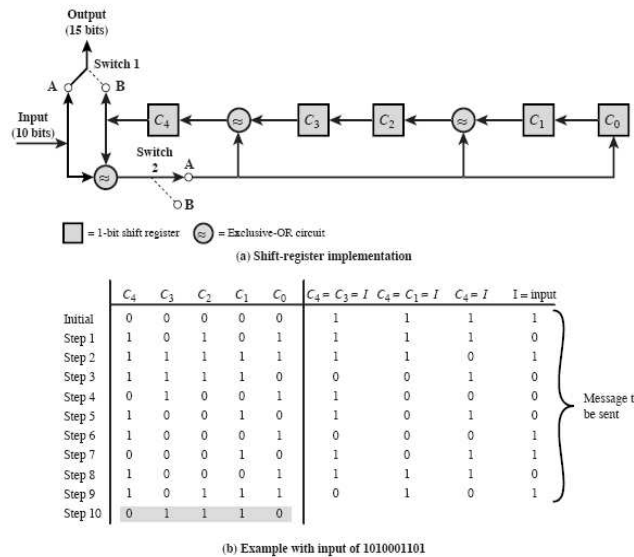

Fig. 2. Case study circuit for CRC checksum generation or checking: \oplus means XOR
The architecture of a CRC circuit is best explained by first considering an example which is illustrated in figure 2. In this example we use
Figure 2(a) shows the shift register implementation. The process begins with the shift register cleared (all zeros). The message, or dividend, is then entered, one bit at a time, starting with the most significant bit. Figure 2(b) shows the step by step operation as the input is applied one bit at a time. Each row of the table shows the value that is currently stored in the five shift register elements. In addition, the row shows the values that appear at the outputs of the three XOR circuits. Finally, the row shows the value of the next input bit, which is available for the operation of the next step. Note that the XOR operation affects C_4 , C_2 and C_0 on the next shift. This is identical to the binary long division shown in figure 3. The process continues for all the bits in the message. To produce the proper output, two switches are used. The input data is fed with both switches in A position. As a result, for the first 10 steps, the input bits are fed into the shift register and also used as output bits. After the last data bit is processed, the shift register contains the remainder (FCS) (shown shaded). As soon as the last data bit is provided to the shift register, both switches go to B position. This has two effects: (1) all the XOR gates become simple pass throughs; no bits are changed (2) as the shifting process continues, the 5 CRC bits are output. At the receiver, the same logic is used. As each bit of M arrives, it is inserted into the shift register. If there have been no errors, the shift register should contain the bit pattern for R at the conclusion of M. The transmitted bits of R now begin to arrive, and the effect is to zero out the register.